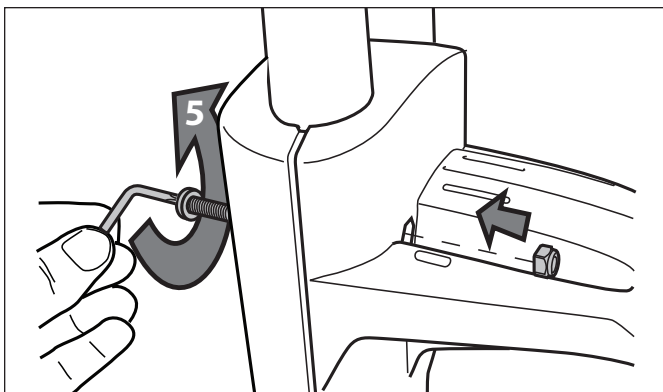

**Figure 3. Position the Bottom Power Cable Hook**
2. Position the bottom power cable hook as shown in Figure 3. Place the cable hook plate opposite the power cable hook. Secure using a screw and tightening with the Torx® wrench. Refer to Figure 4.